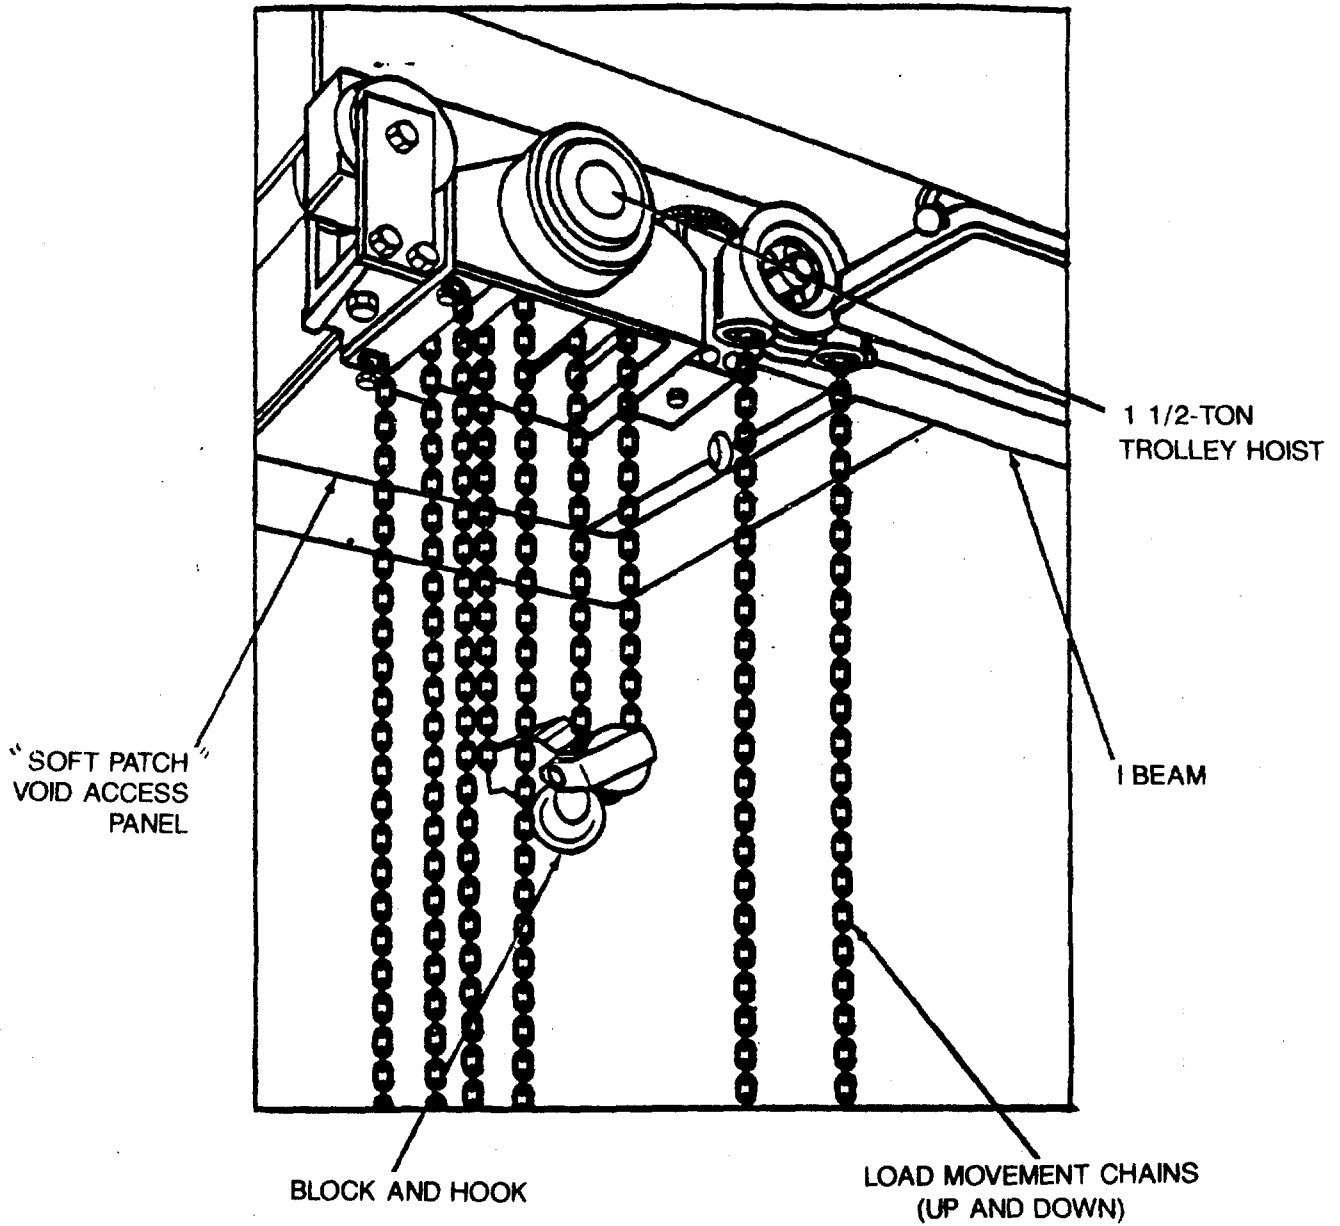

Figure 13-3. Void 4 Trolley Hoist
**13-3.3 Void 4 Trolley Hoist.** Void 4 trolley hoist (Figure 13-3) in void 4 starboard is a low-headroom, manually operated hoist. Major components include an "I" beam suspended from the void 4 overhead structure, a manual hoist assembly, load chains, a block hook, and a brake mechanism. The trolley hoist has a net weight of 230 pounds and a standard lift height of 8 feet. The load chains measure approximately 9 feet 6 inches and require 41 pounds of pull to lift a full load. The hook assembly has a diameter of 1 3/7 inches. The "U" beam measures approximately 6 inches in width.